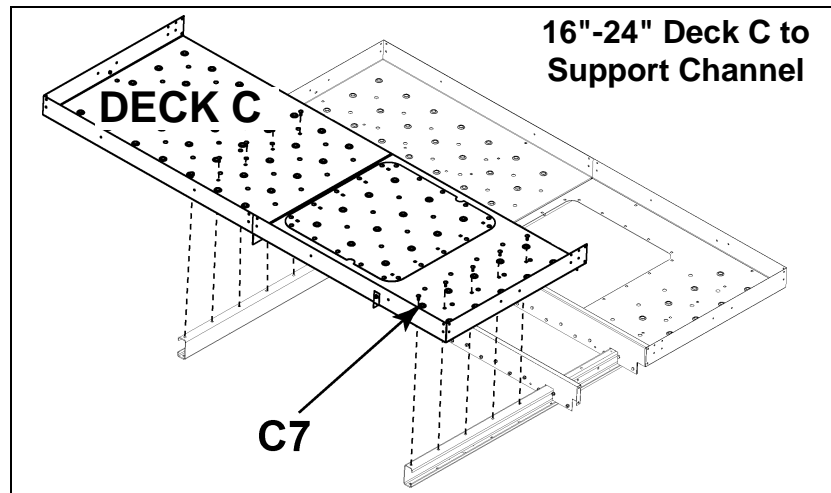
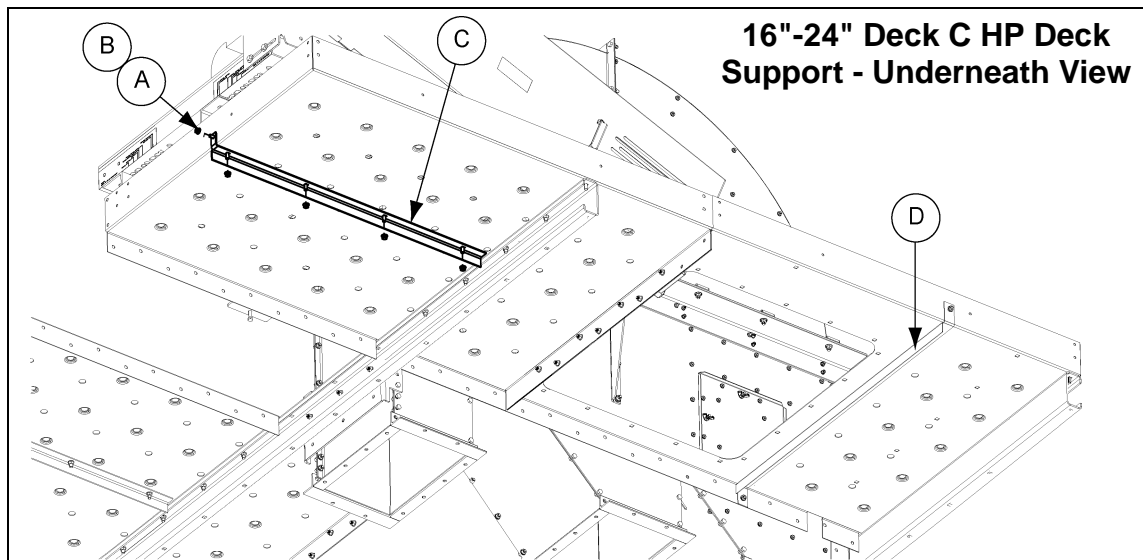

Figure 8F 16" Deck C to Support Channels
Figure 8G Deck C HP Deck Support as Viewed from Underneath.
1. Using 3/8" x 1" carriage bolts (S-3585) and 3/8" flange nuts (S-10028), connect Deck C to main support channel. **IMPORTANT:** Connect every hole. (See Figure 8F.)
2. Install decking support (HP1624DS) to up-leg end of Deck A as shown. Using five (5) 3/8" x 1" bolts (S-7105) and 3/8" nuts (S-10028).
- a. Using 3/8" flange nuts (S-10028) and 3/8" x 3/4" flange bolts (S-7105), connect the hatch deck support bar to the kick plate attached to Deck C and to the hole labeled **A2** on decking nearest the side toe board and lower head. Torque to standard specifications. (See Figure 8G.)